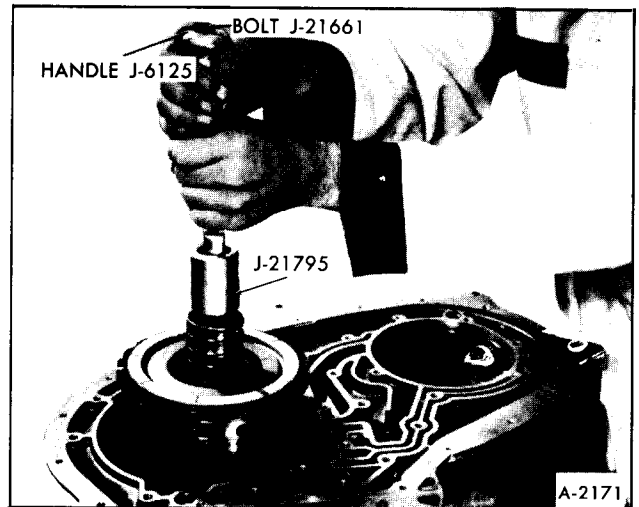

Figure 47—Gear Unit Removal
5. Install Gear Assembly Remove and Installer Adapter, J-21795, on end of main shaft so that tangs engage groove in shaft. Using Slide Hammer Handle, such as J-6125, and Speedometer Puller Bolt, J-21797, tighten bolt on tool to secure tool on shaft, Figure 47.